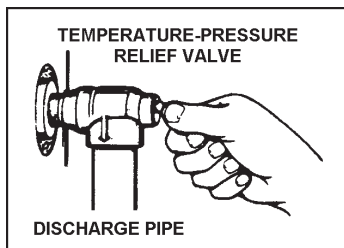

FIGURE 37.
When checking the temperature-pressure relief valve operation, make sure that (1) no one is in front of or around the outlet of the temperature-pressure relief valve discharge line, and (2) that the water discharge will not cause any property damage, as the water may be extremely hot, see Figure 37.
To check the relief valve, lift the lever at the end of the valve several times, see Figure 37. The valve should seat properly and operate freely.